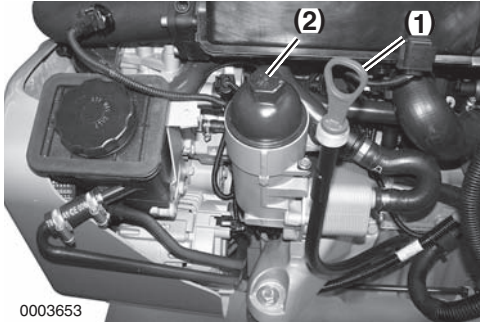

Figure 3
1. Remove dipstick (**Figure 3, (1)**) and wipe with clean cloth.